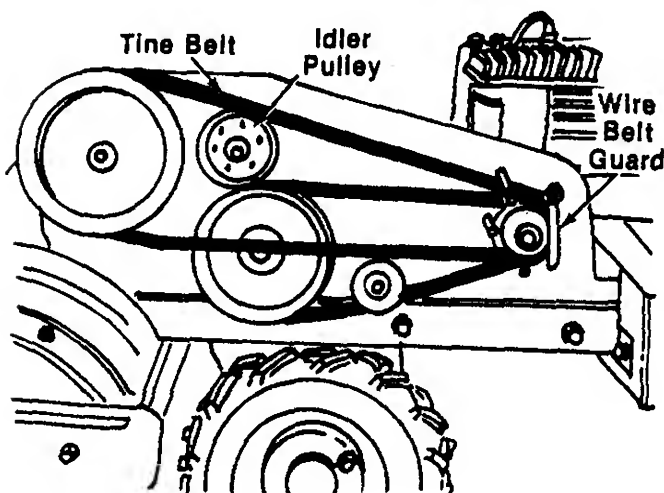

FIGURE 20.
2. Lift the belt from under the flat idler pulley. See figure 20.
3. Remove the wire belt guard. See figure 20.